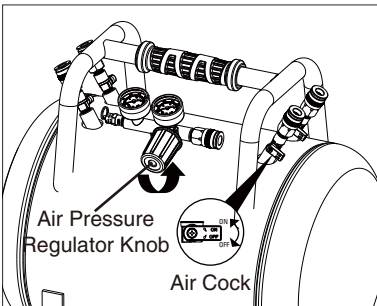

Fig 5
1. Regularly drain water condensation from tank, which can lead to internal corrosion and damage to the tank. To drain, keep all air cocks to the "OFF" position (Fig 5).
2. Turn air pressure regulator knob counter-clockwise to set the outlet pressure to zero (Fig 5).